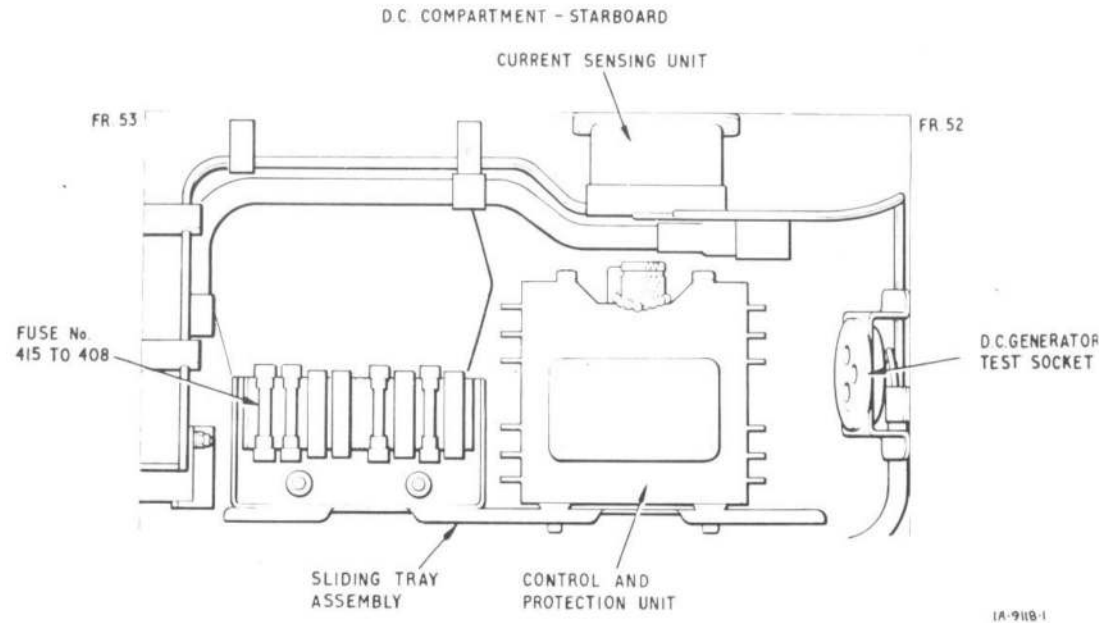

Fig. 2. D.C. control equipment
14. A voltmeter test socket is mounted adjacent to the d.c. control equipment behind access panel 104S (fig.2).